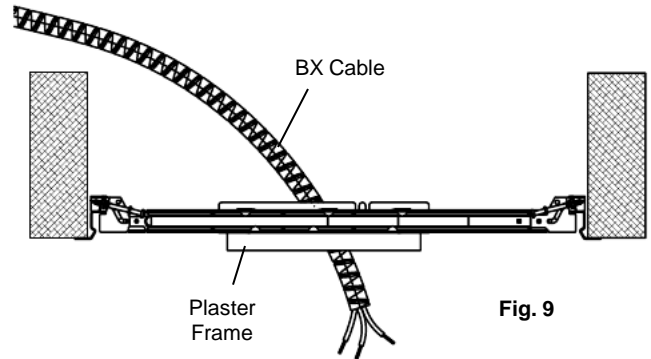

Fig. 9
- Run armored cable (BX) or non-metallic (NM) cable (also known as Romex) from your circuit breaker or fuse panel to the plaster frame hole, providing 6" (15,2 cm) to 8" (20,3 cm) of slack extending below the hole. Cable having up to 12 AWG wiring may be used. (Fig. 9) **(WARNING - Use cables having wires rated 90°C or more.)**